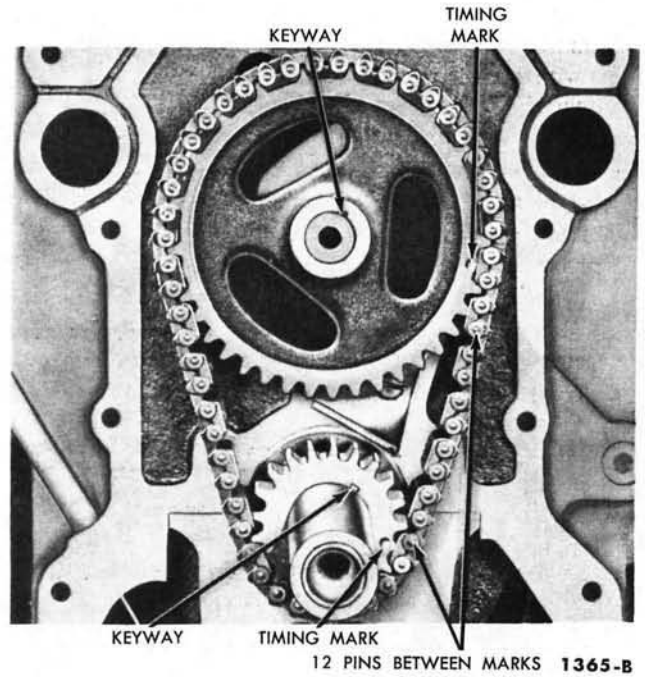
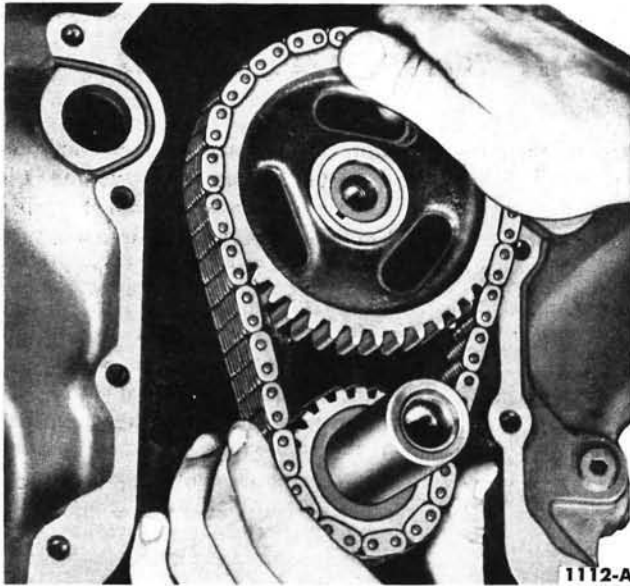

FIG. 37—Aligning Timing Marks—292 Engine
FIG. 38—Timing Chain and Sprockets Removal or Installation—292 Engine
ets and chain are positioned as shown in Fig. 37. Remove the camshaft sprocket cap screw, washer, and spacer. Remove the fuel pump eccentric. Slide both sprockets and the timing chain forward, and remove the sprockets and the timing chain as an assembly (Fig. 38).
2. On a 292 engine, position the sprockets and timing chain on the camshaft and crankshaft (Fig. 38). Be sure the timing marks on the sprockets and chain are positioned as shown in Fig. 37. There are 12 timing chain link pins between the timing marks on the sprockets.
Crank the engine until the timemarks on the sprockets are positioned as shown in Fig. 37.
6. Remove the sprocket and timing chain as an assembly (Fig. 38). Remove the woodruff key, thrust plate, and spacer.
2. Install the sprockets and timing chain (Fig. 38), the counterweight,